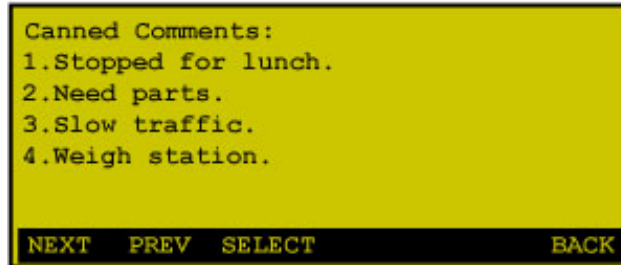

Figure 8: Canned Comments Screen
- a. Press the **CanMsg** soft key. The **Canned Comments** screen, shown in Figure 8, appears.